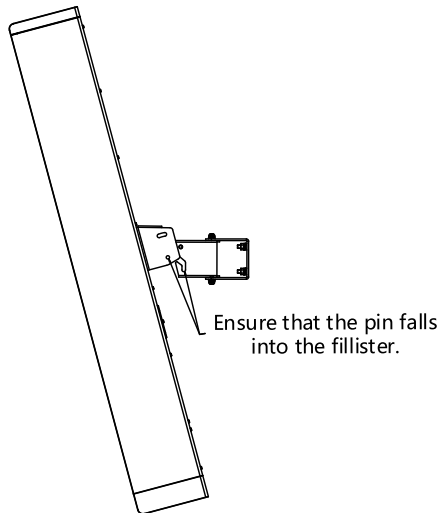

Figure 3-4 Fixed column speaker to Wall
- Hang the column speaker assembled in step 4 onto the bracket 2 assembled in step 7 as shown in Figure 3-4.